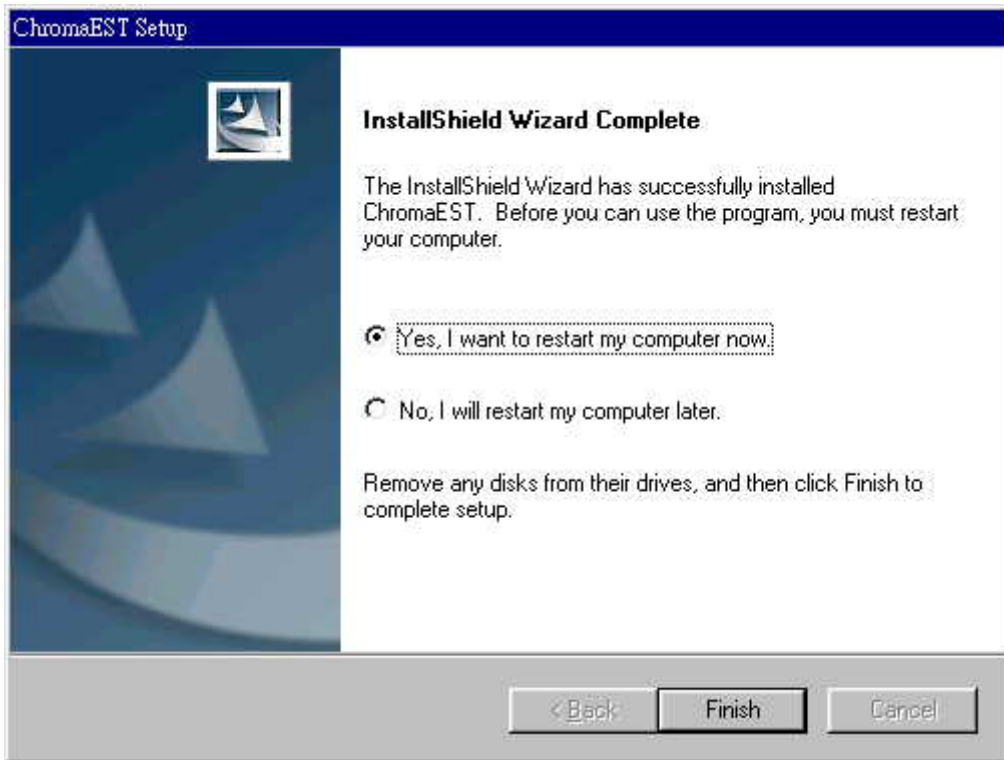

Figure 2-8 Chroma EST Setup Screen 7
6. After the installation is completed, the program will request the user to reboot to ensure this software normal use. (Figure 2-8)